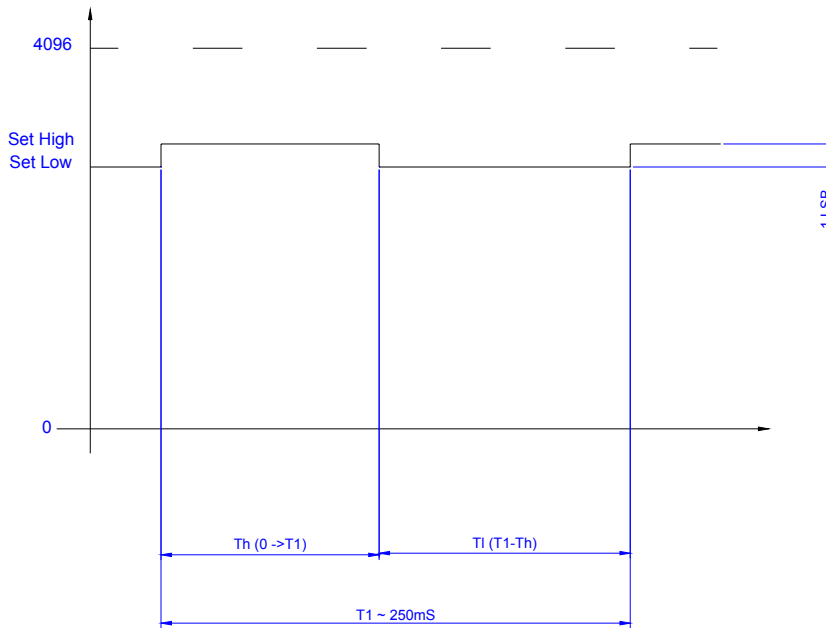

Figure 2 - Schematic for achieving greater than 12-bit precision on PTC heater commanding.
- There are two possible means by which the extra precision on the heat dissipated in the PTC can be achieved. They both involve using a duty cycle on the DAC setting for the PTC heater drive as indicated in Figure 2. This could be carried out in one of two ways;